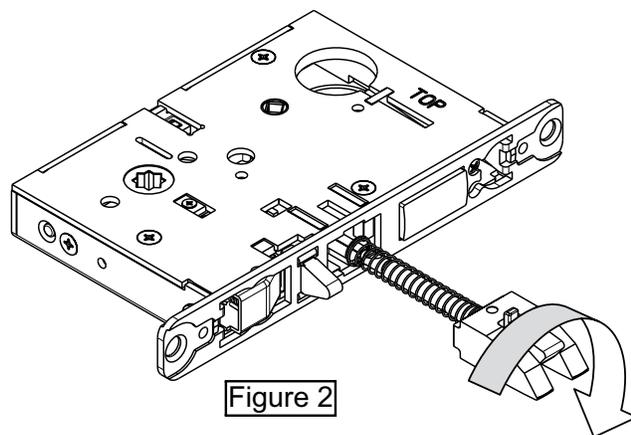

Figure 2
Step 3) Pull latch out of lock-body and turn latch over (Fig. 2)